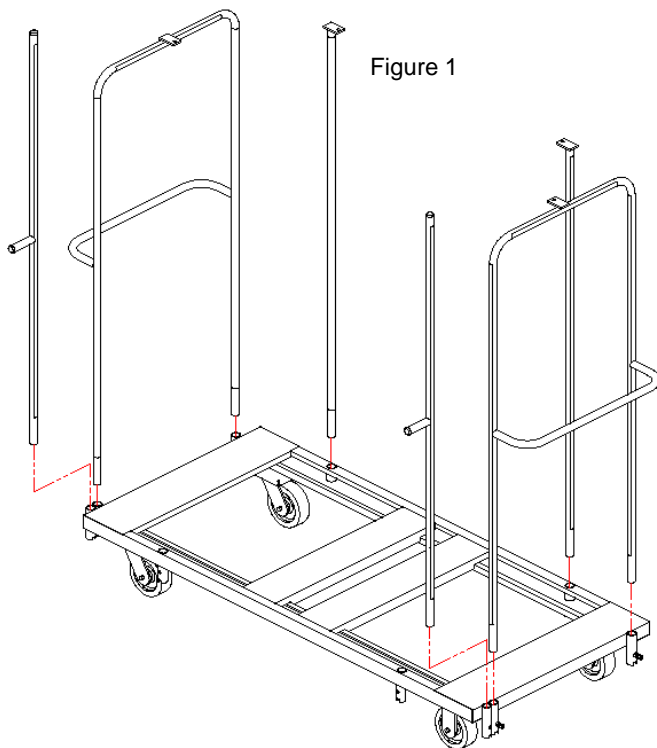

Figure 1
2. Insert the Handles on each end of the Base into the sockets WITH screws (See Figure 1).
3. Insert the Rear Supports into the sockets WITH screws on the back side of the Base. The long part of the Rear Support tabs MUST face each other (See Figure 1).
4. Insert the Front Posts into the sockets without screws on the end of the Base next to the Handles (See Figure 1).